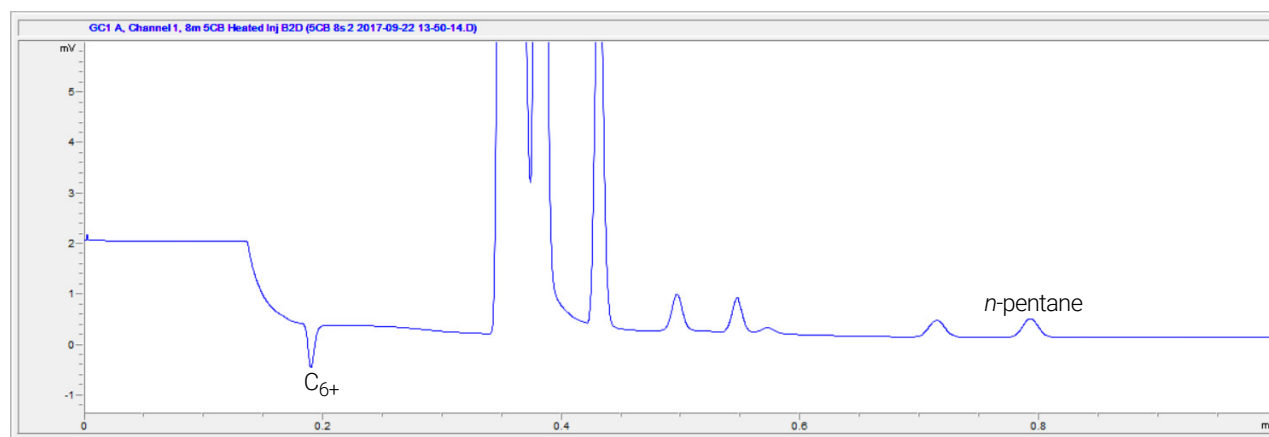

Figure 32. 8m 5CB Column for natural gas analysis
- 1 Set backflush (BF) time to 0 seconds. Start a run to obtain the peaks of all eluted components. Record the retention time (RT) of *n*-pentane and 2,2-dimethylbutane.
- 4 Finely tune the BF time, find the data point when the 2,2-dimethylbutane peak is observed. Decrease BF time by 0.1 seconds steps, and start a run until the peak disappears (peak height < 3 μ V). Set BF time for this channel to that value minus 0.2 seconds. A typical “clean cut” time range of 8m 5CB BF2D channel is approximately 0.3-0.5 seconds. (See Figure 32.)